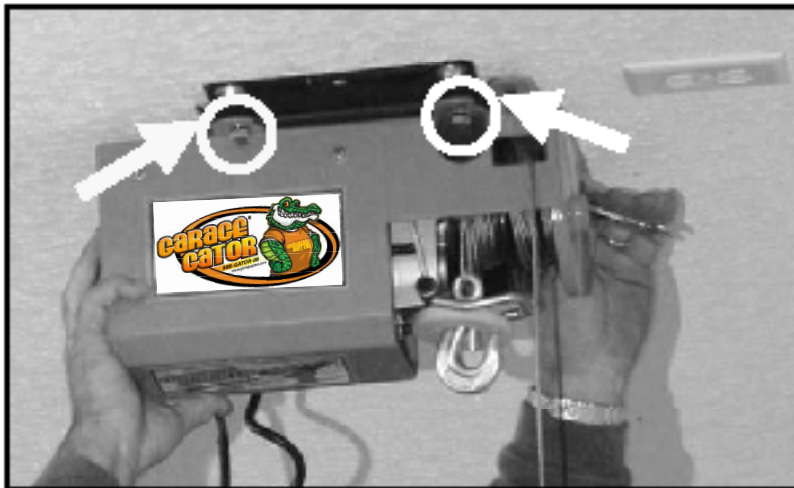

FIG. 3
- Slide the mounting tabs on the motor hoist (B) over top of the four fixed, threaded bolts on the motor mounting plate (A) *(If there is not enough room between the washers and the motor mounting plate for the motor hoist mounting tabs it will be necessary to loosen the nuts by turning them counter clockwise.)*
- Once the motor hoist is properly positioned on the motor mounting plate tighten the nut with the ratchet or the adjustable wrench until the motor hoist is securely attached to the motor mounting plate. **(SEE FIG. 3)**